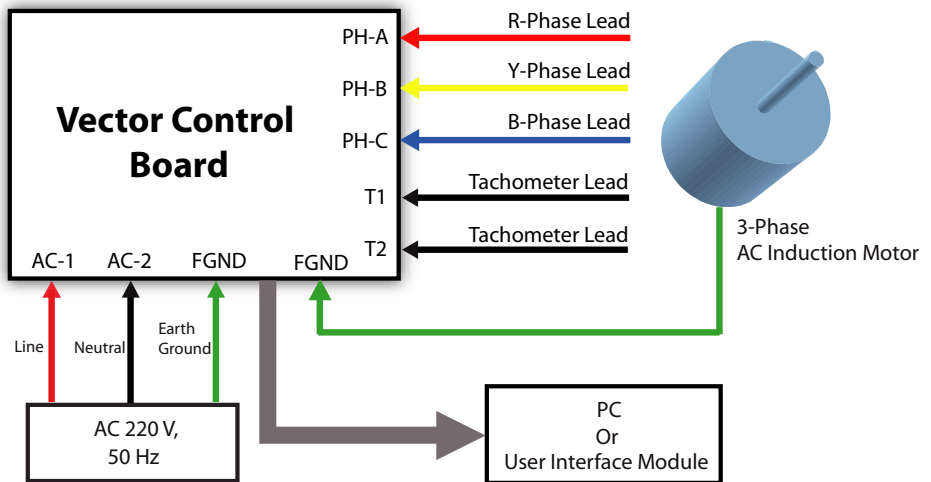

Figure 7. Hardware Setup for ACIM with 220 V, 50 Hz Supply Voltage
- 5) If supply voltage is 220 V, 50 Hz; connect the Line of supply to AC-1 and neutral to AC-2 (see Figure 7).
Figure 7 illustrates the hardware setup for AC Induction Motor for AC 220 V and 50 Hz supply voltage.